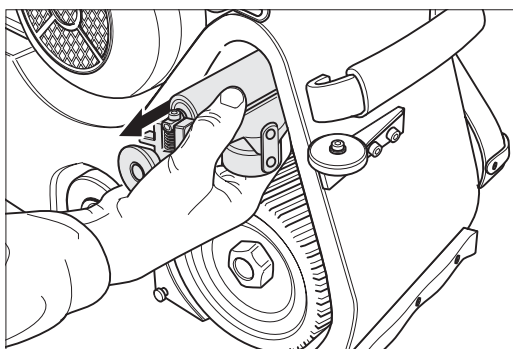

Fig. 30 Carefully remove the drive unit.
- 9 Carefully remove the unit and clean it (Fig. 30).